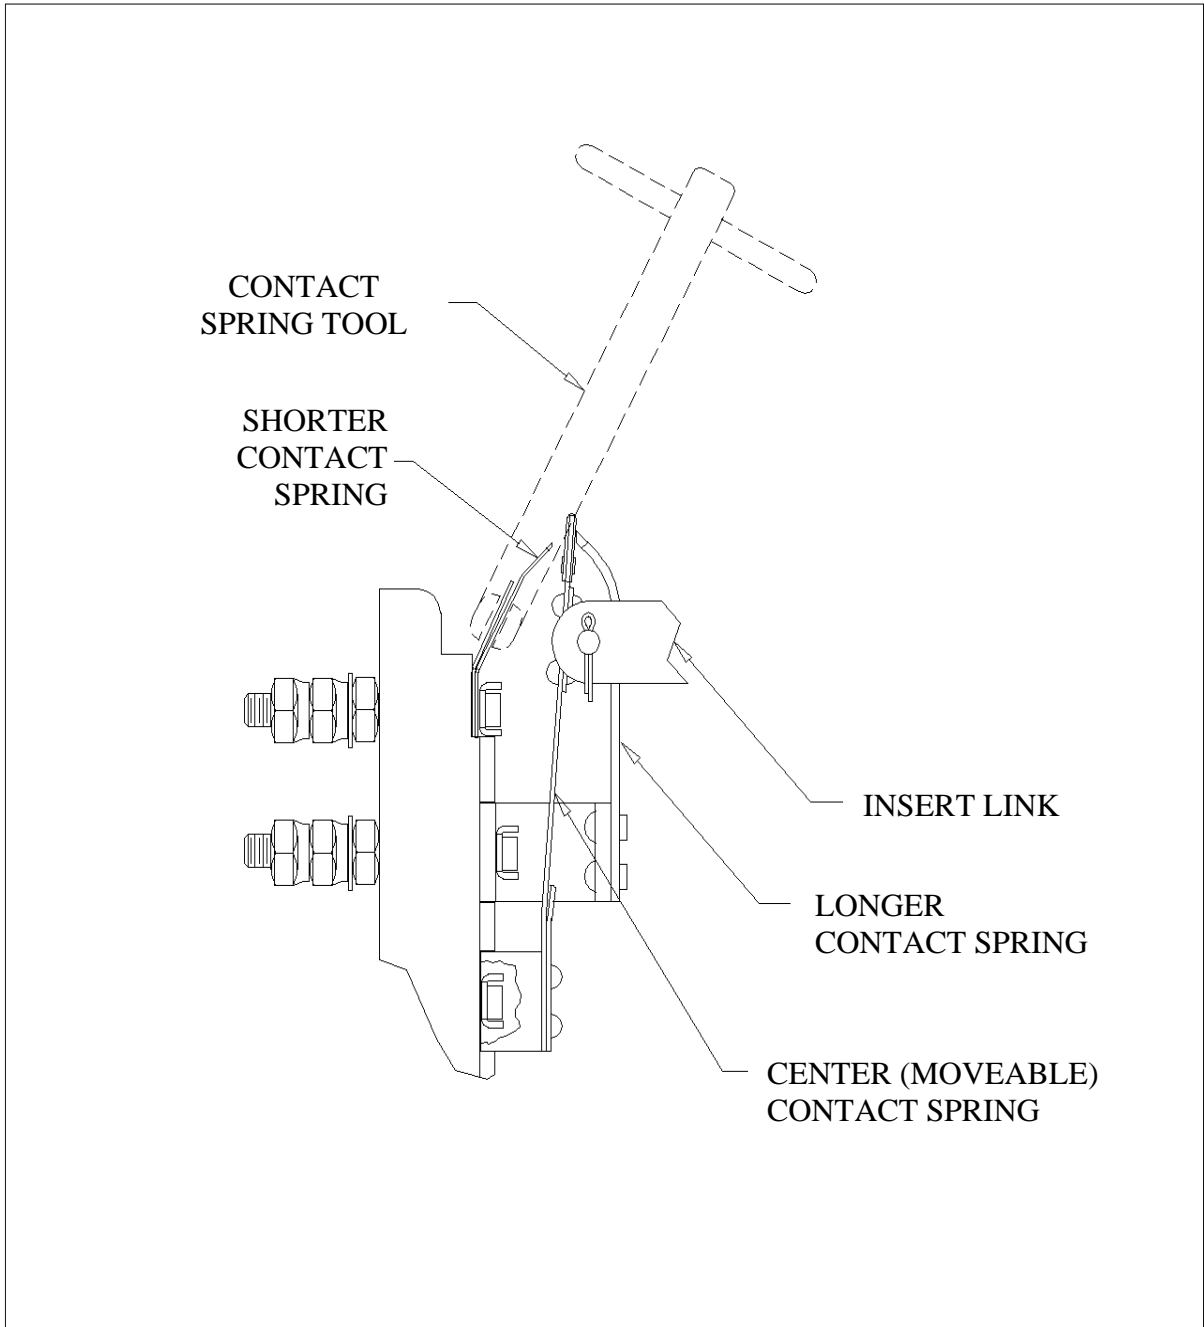

FIGURE 5-1 CONTACT ADJUSTMENT
5.2 Contact Spring Adjustments (See Figure 5-1)
- A. Remove the bolts (66), nuts (67), and lock washers (68) from the collar and crank. Remove the collar and crank.
- B. Loosen the clamp screws (38) of all the cams.
- C. Remove the adjusting screws (36), nuts (37), and cotter pin (32) from cams.
- F. Place the 856-switch circuit controller on an arbor press bed as illustrated in Figure 5-1.
- G. Place the new bushing over the worn bushing being replaced as illustrated in Figure 5-1.